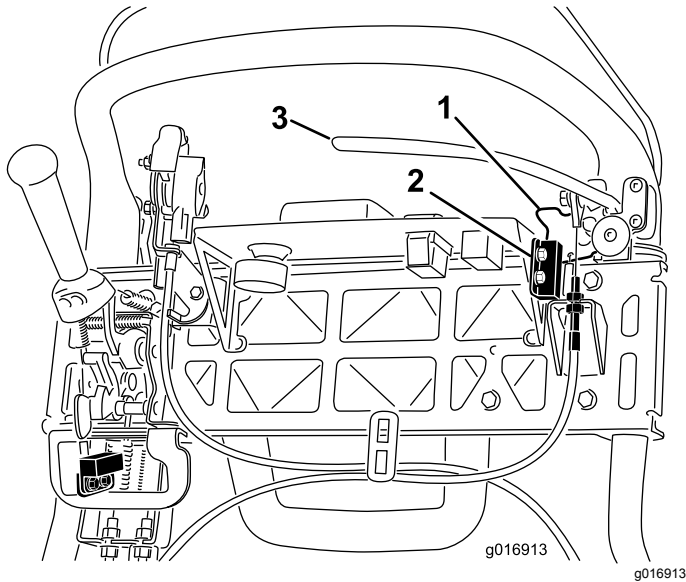

Figure 42
4. Loosen and remove the interlock-switch mounting fasteners (Figure 42).
5. Place a 1.6 mm (0.062 inch) thick shim between the parking-brake latch and the interlock switch (Figure 42).